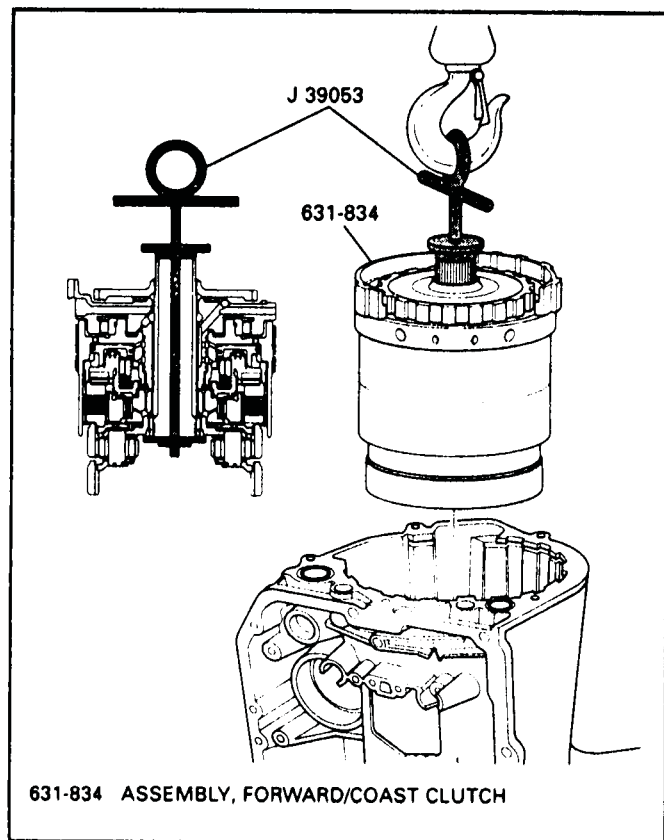

Figure 97
1. Lift the forward/coast clutch assembly into the case with chain hoist and/or suitable lifting equipment, as shown in Figure 97.
2. As the assembly is lowered into case, the two bolt holes and feed holes must line up with the holes in bottom pan area of the case (See Figure 97).
3. Remove the lifting tool J-39053 from the assembly (See Figure 97).